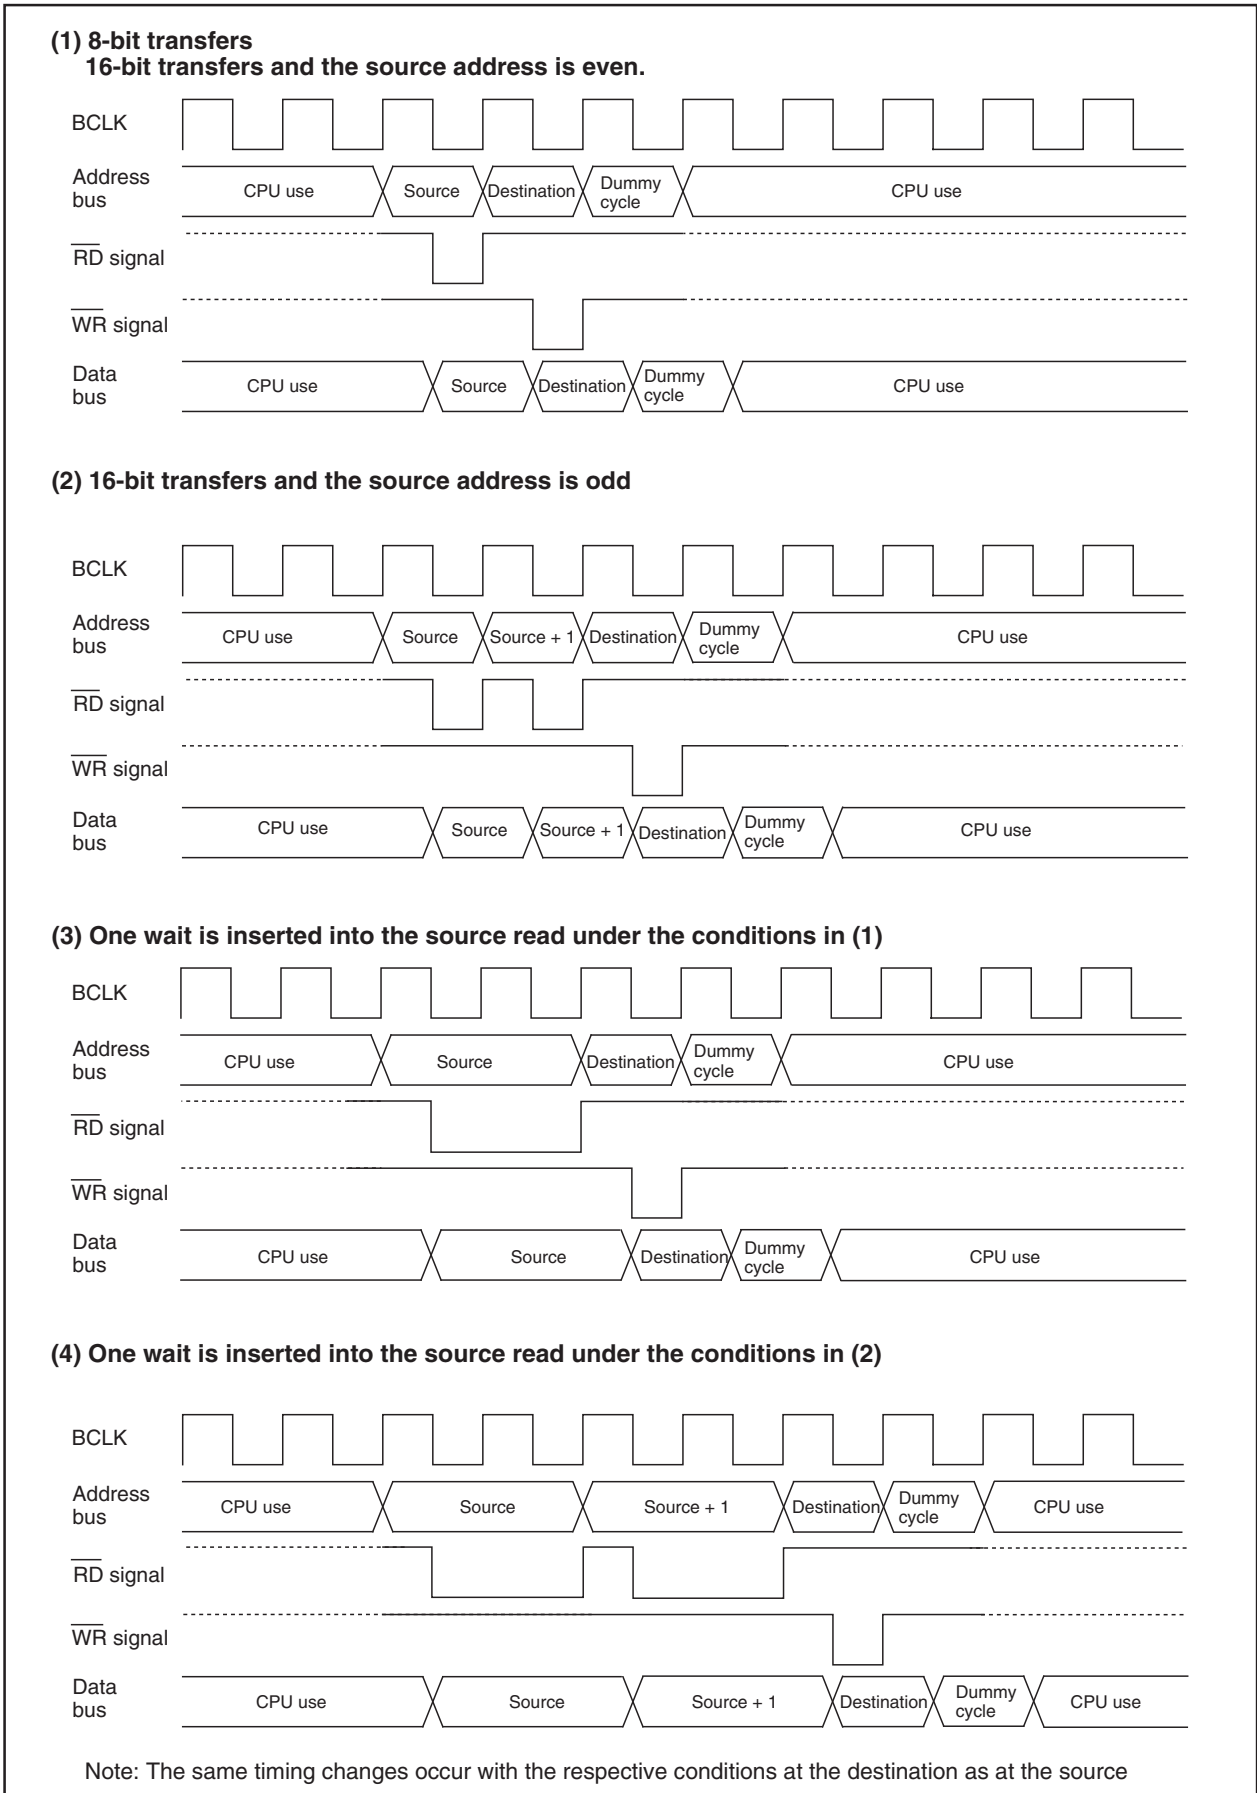

Figure 1.11.5. Example of the transfer cycles for a source read
Figure 1.11.5 shows the example of the transfer cycles for a source read. For convenience, the destination write cycle is shown as one cycle and the source read cycles for the different conditions are shown. In reality, the destination write cycle is subject to the same conditions as the source read cycle, with the transfer cycle changing accordingly. When calculating the transfer cycle, remember to apply the respective conditions to both the destination write cycle and the source read cycle. For example (2) in Figure 1.11.5, if 16-bit data is being transferred from an odd source address to an odd destination address, two bus cycles are required for both the source read cycle and the destination write cycle.
(2) DMAC transfer cycles